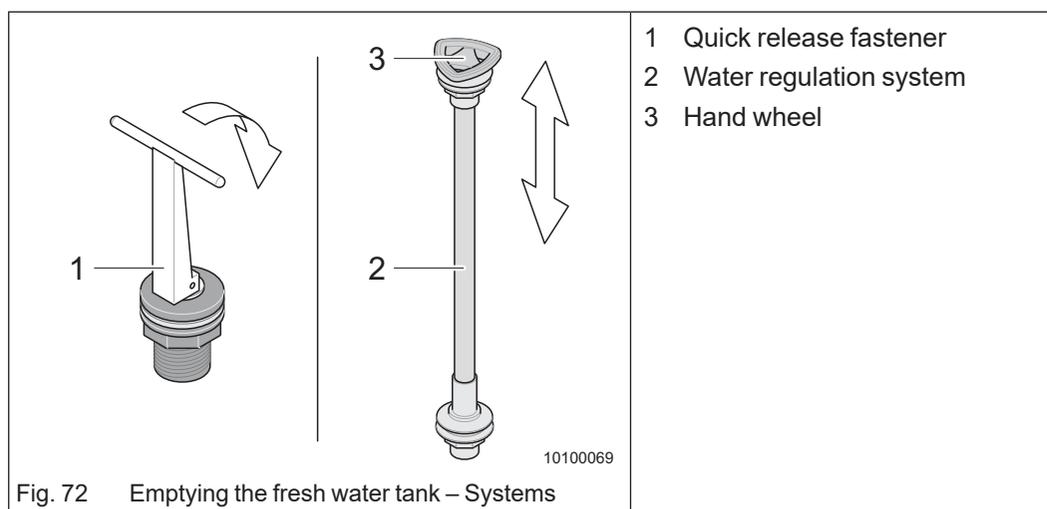

Fig. 72 Emptying the fresh water tank – Systems
Some models are equipped with an (optional) water regulation system (Fig. 72/2). You can use the hand wheel (Fig. 72/3 and Fig. 71/5) at the top of the fresh water tank to adjust and drain the water.
- Either open the service cover (Fig. 71/4). Then, push the quick release fastener (Fig. 72/1) into the drain valve and fold the handle.
- Or turn the hand wheel of the regulation system (Fig. 72/3 or Fig. 71/5) clockwise until you hit the stop.
- Either open the service cover (Fig. 71/4), fold the handle on the plug in the tank (Fig. 72/1) down and pull the plug out.
- Or turn the hand wheel of the regulation system (Fig. 72/3 or Fig. 71/5) anticlockwise to the stop.